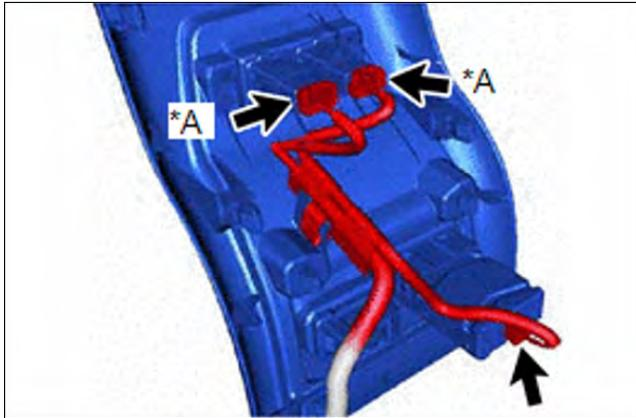

Figure 55
- (a) With seat heater system, connect the connectors, as shown in Figure 55.